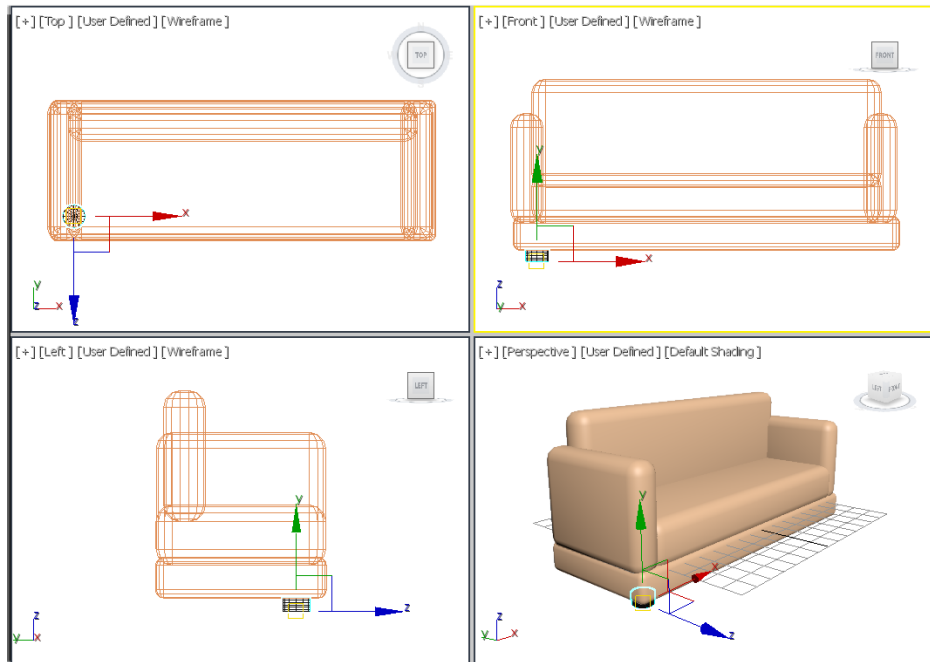

Figure 3-25 The support1 geometry aligned in the viewports
6. In the **Name and Color** rollout, enter **support1** and press the ENTER key. Assign black color to it. Next, align it at the bottom left corner of *base*, as shown in Figure 3-25.